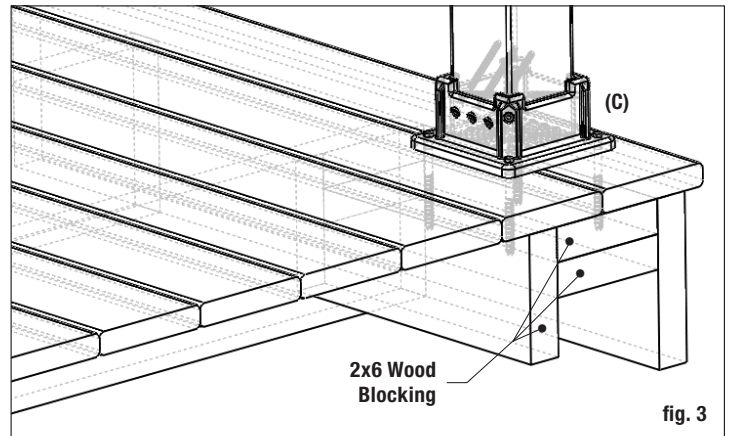

fig. 3
Step 4 For installation on a wood deck, use a minimum (4) 5/16x4" lag screws (C) or longer, with washers. Position the post anchor so the fastener will go into a joist if possible, and make sure the decking is firmly attached to the joist at the location of the posts. The side of the post anchor with three screws must be oriented towards the deck area. (fig. 3) Corner posts must have two top rails securely attached to the corner post with brackets, to add rigidity to the rail system.